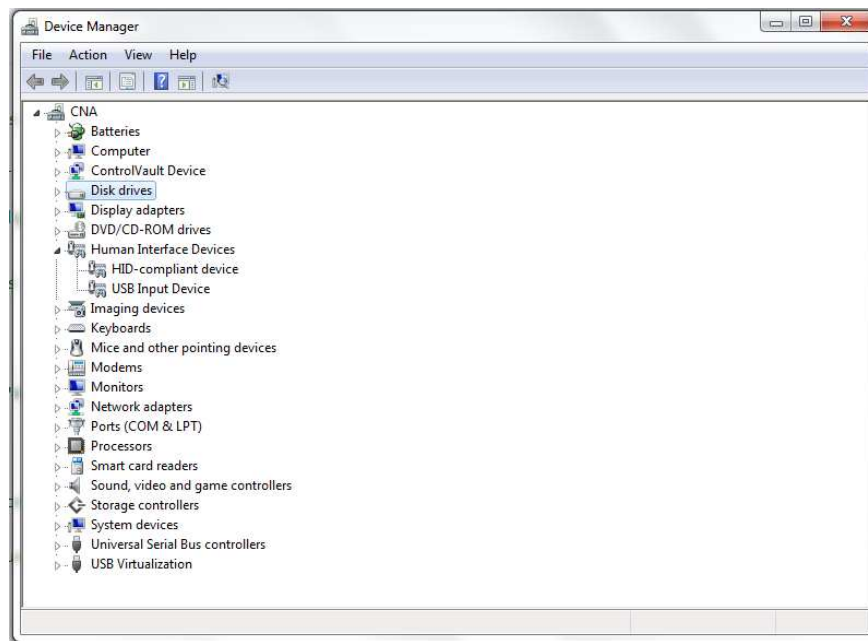

Figure 1-19. Windows 7, ALP USB Driver
1. Check the device manager to make sure that the USB driver is installed. There should be a “HID-compliant device” under the “Human Interface Devices” as shown in Figure 1-19.